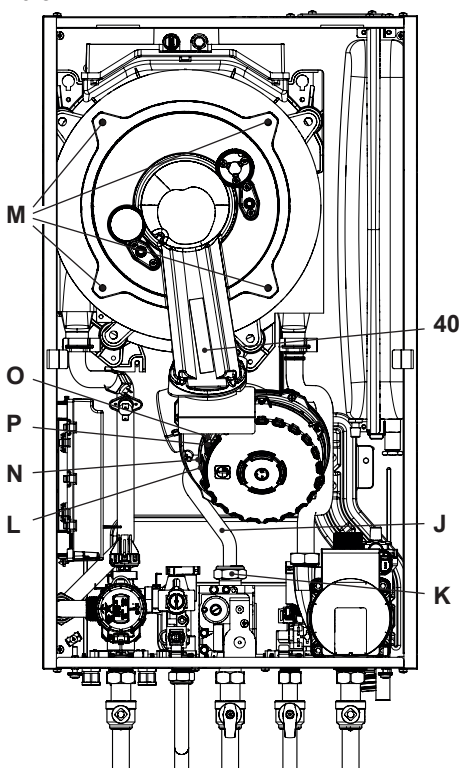

Fig. 10.8
Removing the fan burner unit 40 in Fig. 10.8.
- Insert a flat screwdriver in the connector recess **L** and lever towards the bottom, disconnect the connector at the same time **N** by pulling towards the front **N** (Fig. 10.8).
bottom part of the connector (Fig. 10.8).
- Unscrew screws **M** and remove the fan burner unit 40 (Fig. 10.8)